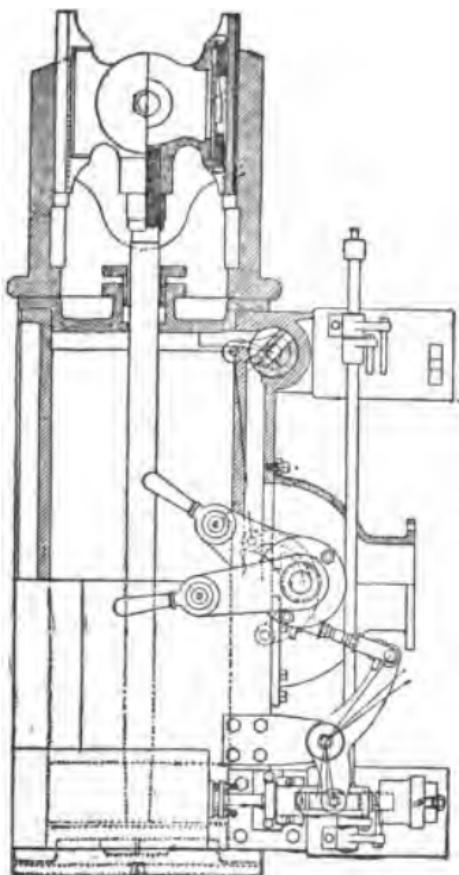

FIG. 133. ROLLINS ENGINE.
A. This engine bears in its general make up some resemblance to the Corliss, but in many respects, especially in the matter of valve adjustment, is entirely dissimilar. Fig. 133 shows the steam side of the cylinder with the wrist plate, steam valve operating mechanism, steam chest, etc., and a section of the exhaust valve. Fig. 134 is a section through the cylinder showing the steam valve and port valve connections. The wrist plate, from which motion is transmitted to the valves, is upon one side of the engine, and the motion is transmitted directly to the steam valve through the rod and bell crank. This bell crank lifts a block which engages with a plate which is connected to the valve stem, and which on being raised opens the valve. Each of these pieces has eight wearing surfaces and may be changed as wear takes place. The latch that holds